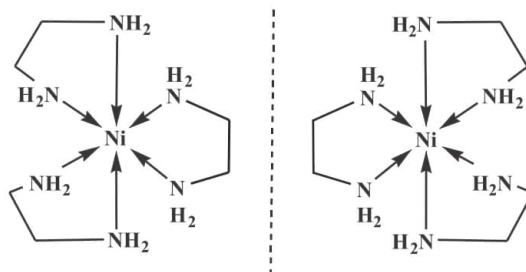

Figure 18.13 The two non-superimposable optical isomers of $[\text{Ni}(\text{en})_3]^{2+}$
Optical isomers are non-superimposable mirror images of each other. Optical isomerism is commonly shown by octahedral complexes with bidentate ligands. An example is the nickel(II) complex containing 1,2-diaminoethane ($\text{NH}_2\text{CH}_2\text{CH}_2\text{NH}_2$) as the bidentate ligand (**Figure 18.13**). The two isomers are optical isomers because the two different molecules are mirror images of each other and cannot be superimposed. Such pairs of molecules are called enantiomers. The optical isomers rotate the plane of polarized light in opposite directions. The isomer that rotates the plane in right hand direction is called dextrorotatory "+", while the one that rotates in left hand direction is called laevorotatory "-".